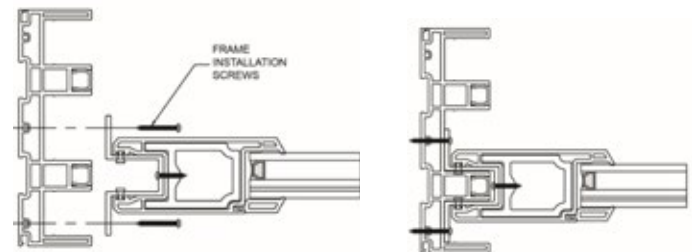

Figure 24b
2. **Secure** the fixed panel clip to the frame jamb using six (6) frame installation screws (Figure 24b).